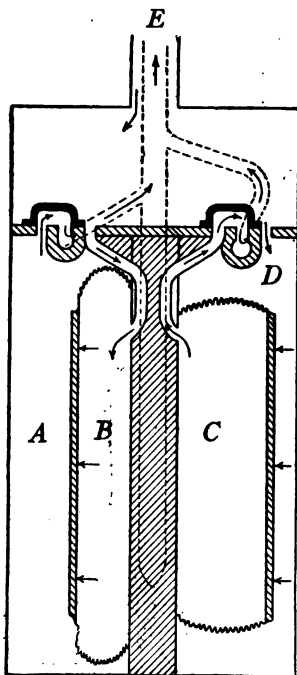

FIG. 51.—Cross-section of a gas meter showing its construction and action.
69. The Gas Meter.—The gas meter consists of a tin box divided into two parts by a vertical partition (Fig. 51). Two bellows are attached to this partition, one on each side. The valves that regulate the flow of gas to and from the bellows and the chambers *A* and *D* are opened and closed by levers connected with the bellows. These levers also operate the hands upon the dials. When the inlet of the bellows *B* is opened, the outlet of *A* is also opened.